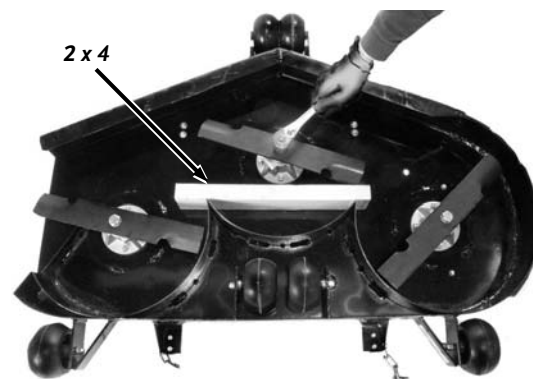

Figure 22
1. Remove the Deck from the chassis following the instructions on page 22. Invert the Deck as shown in (**Figure 22**).